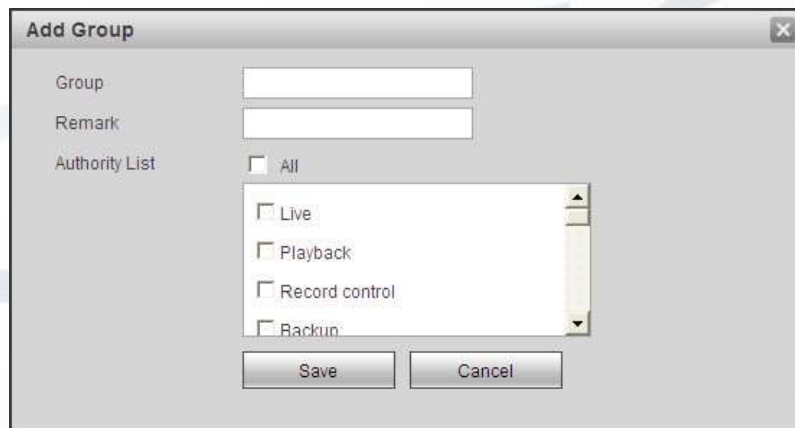

Figure 6-81
**Add group:** This is to add group and set its corresponding rights. See Figure 6-81.